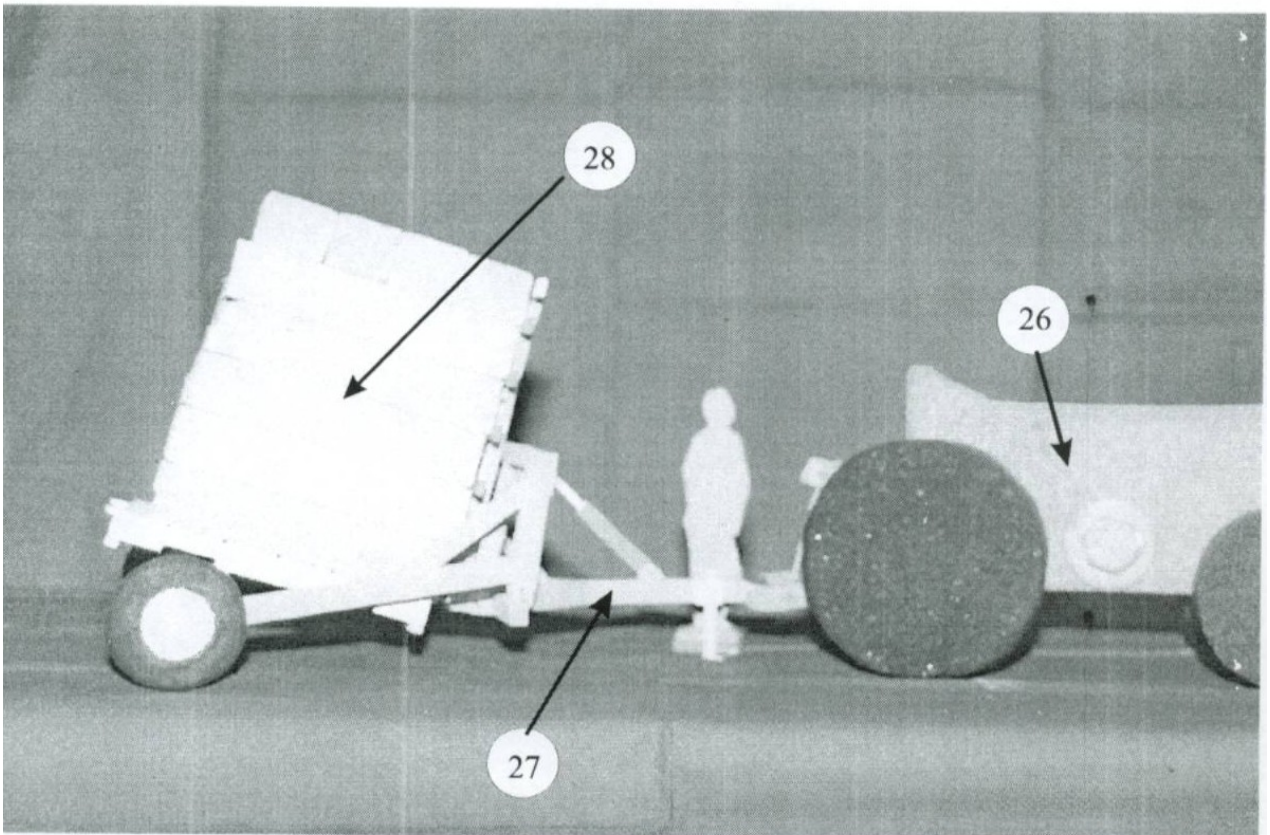

Fig.5
- Fig. 5 Hay lifter, hay pallet, and tractor in combination